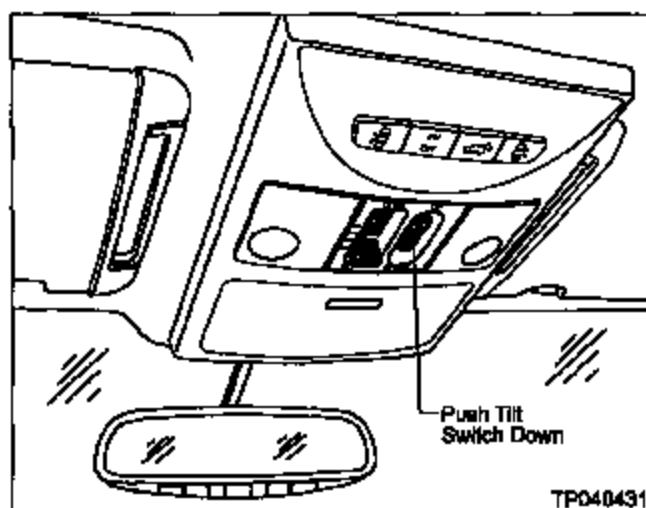

Figure J40
- a. Push the Sunroof Tilt Switch in the tilt DOWN position (repeat as necessary) until the Sunroof is fully closed. See Figure J40.
- b. Then, push and hold the Sunroof Tilt Switch (see Figure J40) in the tilt DOWN position for more than 2 seconds.